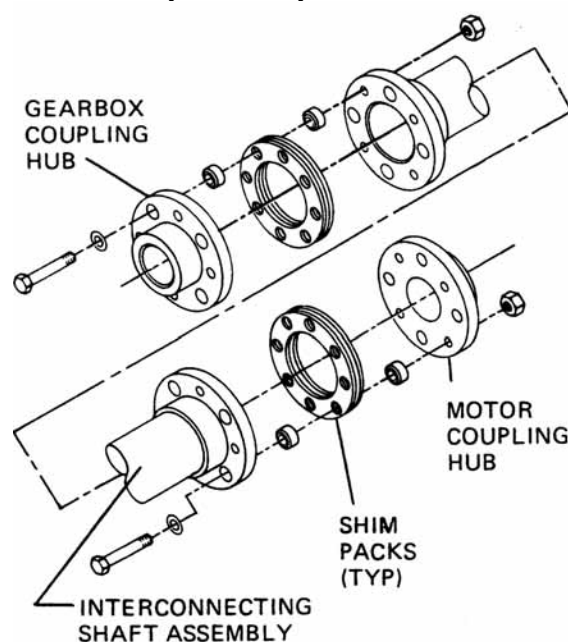

Figure 15. Thomas SN Type Spacer Coupling
- (d) Refer to Figure 15. Measure the length of the floating shaft between hub faces. Measure the distance between the motor and gearbox hub faces. The floating shaft must be shorter than the distance between shaft hub faces by the sum of the end gaps specified in Table 4. If the length difference is not within the limits specified in Table 4, adjust the
- (d) Refer to Figure 15 (Page 12). Measure the length of the floating shaft. Adjust the driver so the distance between driver and gearbox shaft ends is greater than the length of the floating shaft by the sum of the end gaps specified in Table 4 (Page 12).